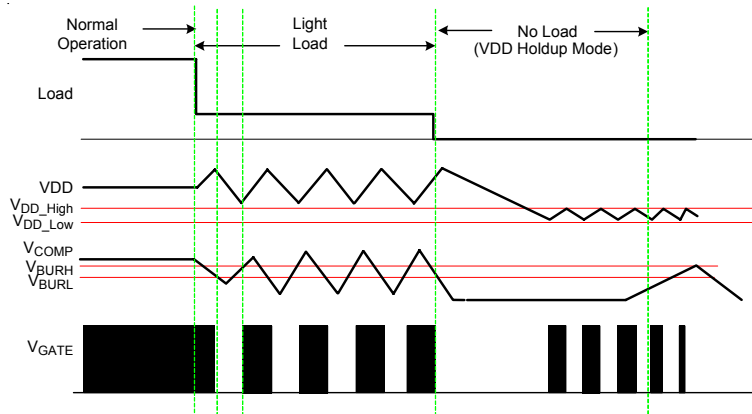

Figure 3. Burst Triple Mode
To fulfill green mode requirement, there are 3 operation modes in R7731. Please also refer to Figure. 3 for details.
- **Burst Mode** : During light load, switching loss will dominate the power efficiency calculation. This mode is to cut switching loss. As shown in Figure 3, when